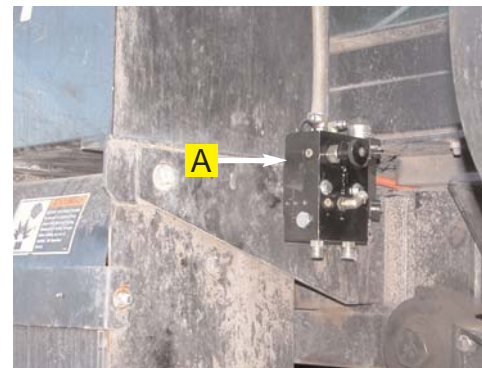

Figure 2c. Automated Steering Block (installed).
- c. Use the provided hardware (E) to attach the prepared Automated Steering Block (A) to the mounting bracket. (Figure 2c.)